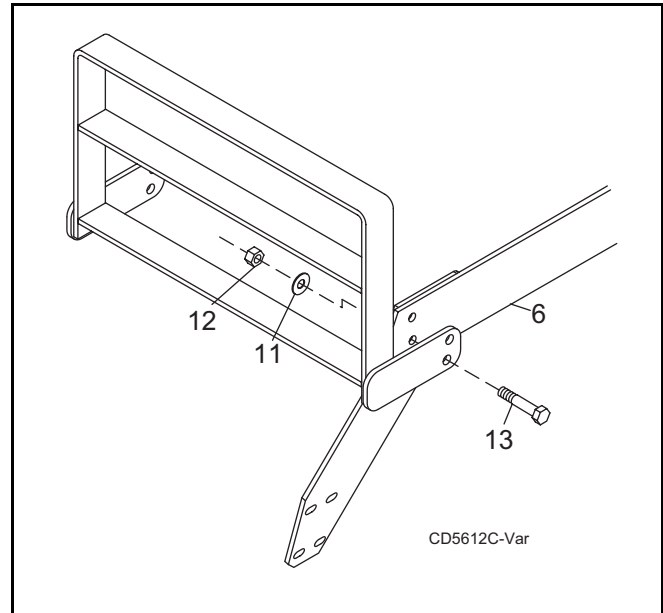

Figure 8 Grill Guard Installed
1. Install grill guard outside the left and right side rails as shown in Figure 8.